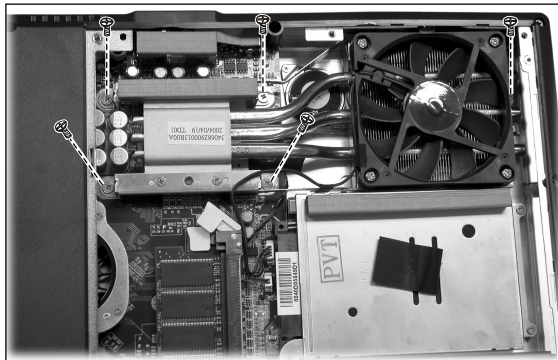

Figure 2-5 Remove five screws
2. Remove five screws that secure the heatsink upon the CPU. (Figure 2-5)